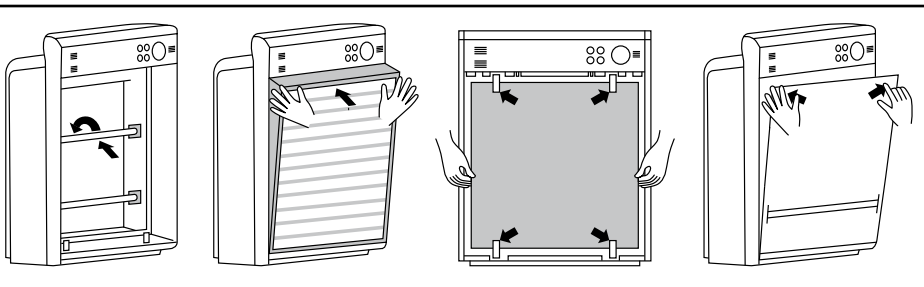

Fig. 5: Assembly
- 1 UV tubes (9):** Carefully fit the tubes (9) into their holders. Gently rotate the tubes (9) either clockwise or anticlockwise until the connections audibly engage. Only grasp the tubes (9) by the ceramic endpieces and wear gloves to do so.
- 2 Main filter (8):** First position the main filter (8) at the bottom of the housing and then press into the housing. The word "HEPA" (on white side of filter) must face outwards.
- 3 Prefilter (7):** Insert the filter (7) and turn the catches in the direction shown in Fig. 5 to secure the prefilter (7).
- 4 Front cover (5):** First position the bottom holders in the openings of the housing. Secure the cover (5) by pressing on the top right and left-hand corners (5) until the cover audibly engages.